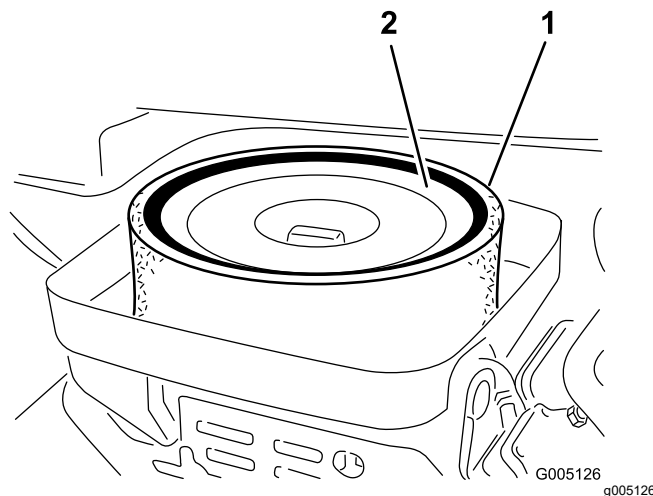

Figure 33
3. Remove the wing nut securing the elements to the air-cleaner body (Figure 33).
4. If the foam element is dirty, remove it from the paper element (Figure 33). Clean it thoroughly, as follows: